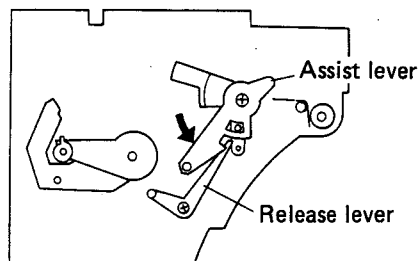

Fig. 1-32 Mounting the mechanism base 2
2. Push the assist lever in the direction of the arrow, and with the tonearm placed in the arm rest, mount the mechanism base (see Fig. 1-32).
8. The slide base section can be removed after screws ⑦, are undone. And the motor which drives the slide base is located underneath the base.
9. Undo screws ⑧ to remove the slide base cover.
10. The slide rail can be disassembled after screws ⑨ are undone. Do not lose any of the bearings during this operation.